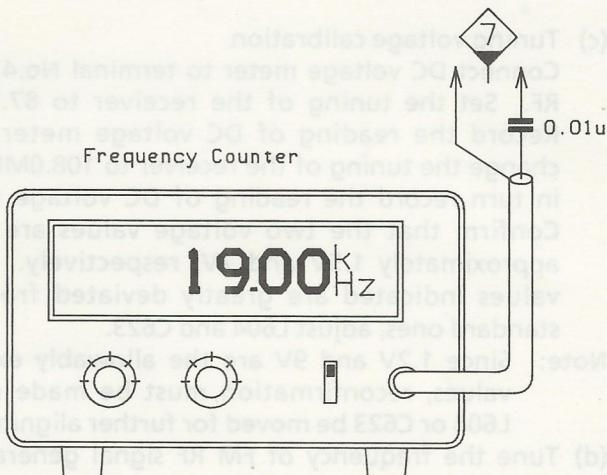

Fig. 12
- (2) Align trimmer resistor R675 until the indication of frequency counter indicating 19kHz. Refer to Fig. 12 illustrates the frequency counter indicating 19kHz.